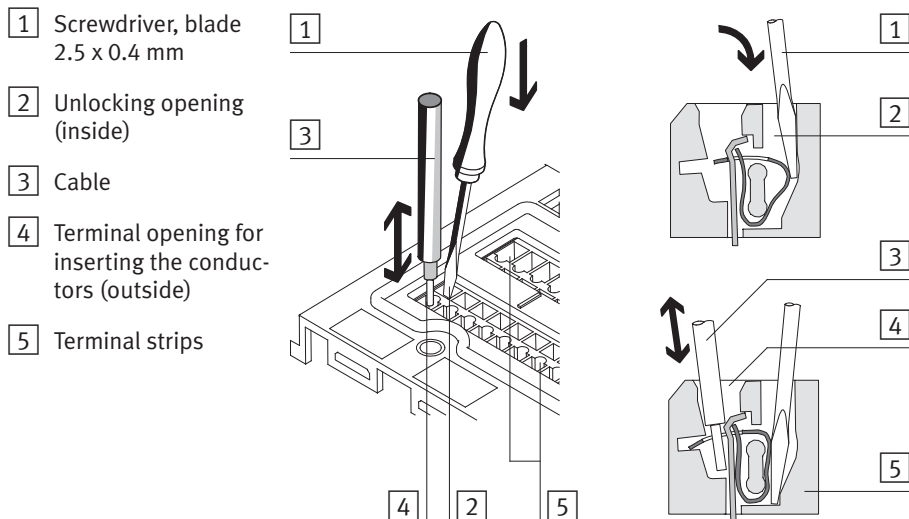

Fig. 1/4: Connecting the terminal strips
1. Press the screwdriver with a light rotary movement towards the centre of the unlocking opening (see Fig. 1/4). The cable terminal will then be unlocked.